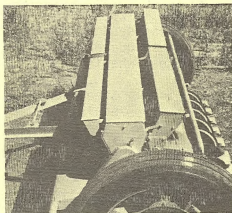

Figure 4. Model PD
2. The Model PD has a clutch and clutch throwout lever at each outer drive chain case. The Model B has a gear engagement and disengagement arrangement at each outer drive in place of a clutch (Figure 4).